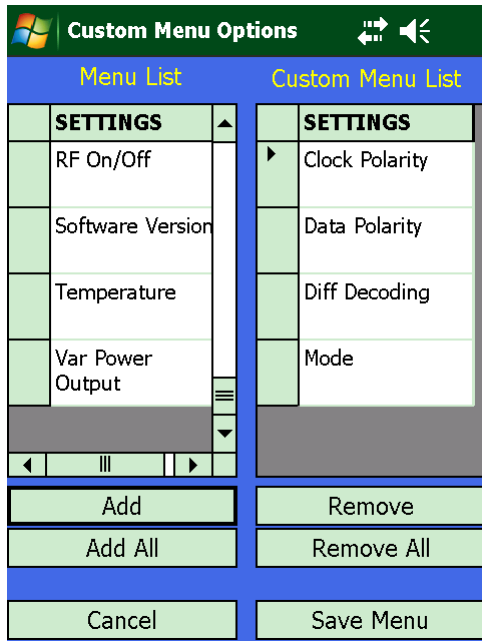
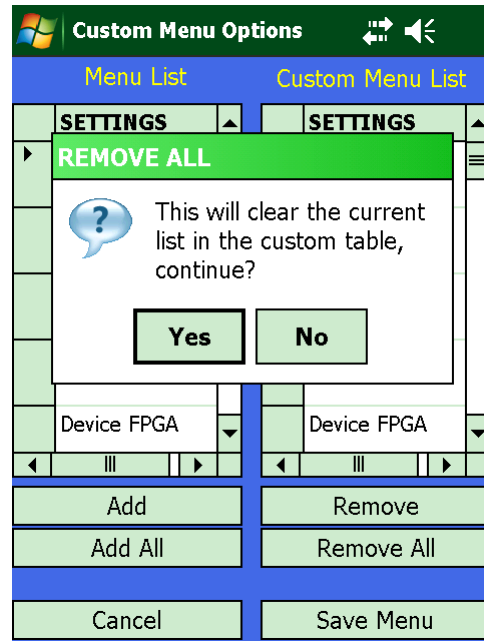

Figure 37: Custom Menu Options Screen
Figure 38: Custom Menu Screen--Remove All
2. Tap on Remove All to remove the parameters from the custom menu (Figure 37 and Figure 38).